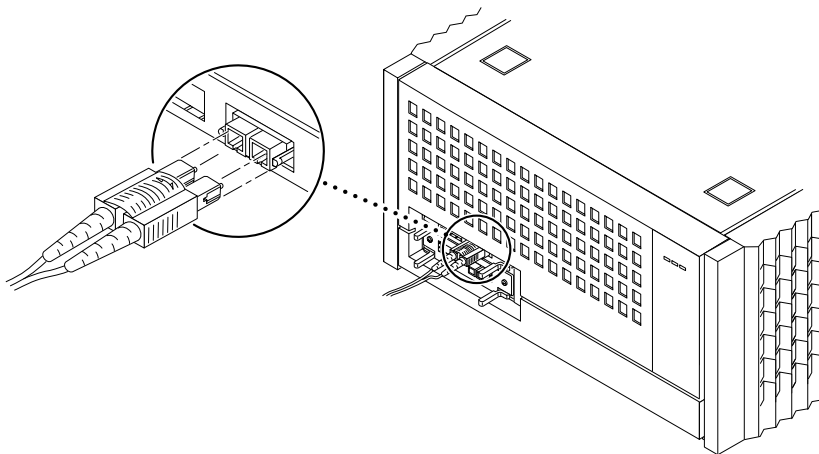

FIGURE 7-3 Disconnecting a Fiber Optic Cable From a GBIC
1. **Disconnect the fiber optic cable from the GBIC (FIGURE 7-3).**